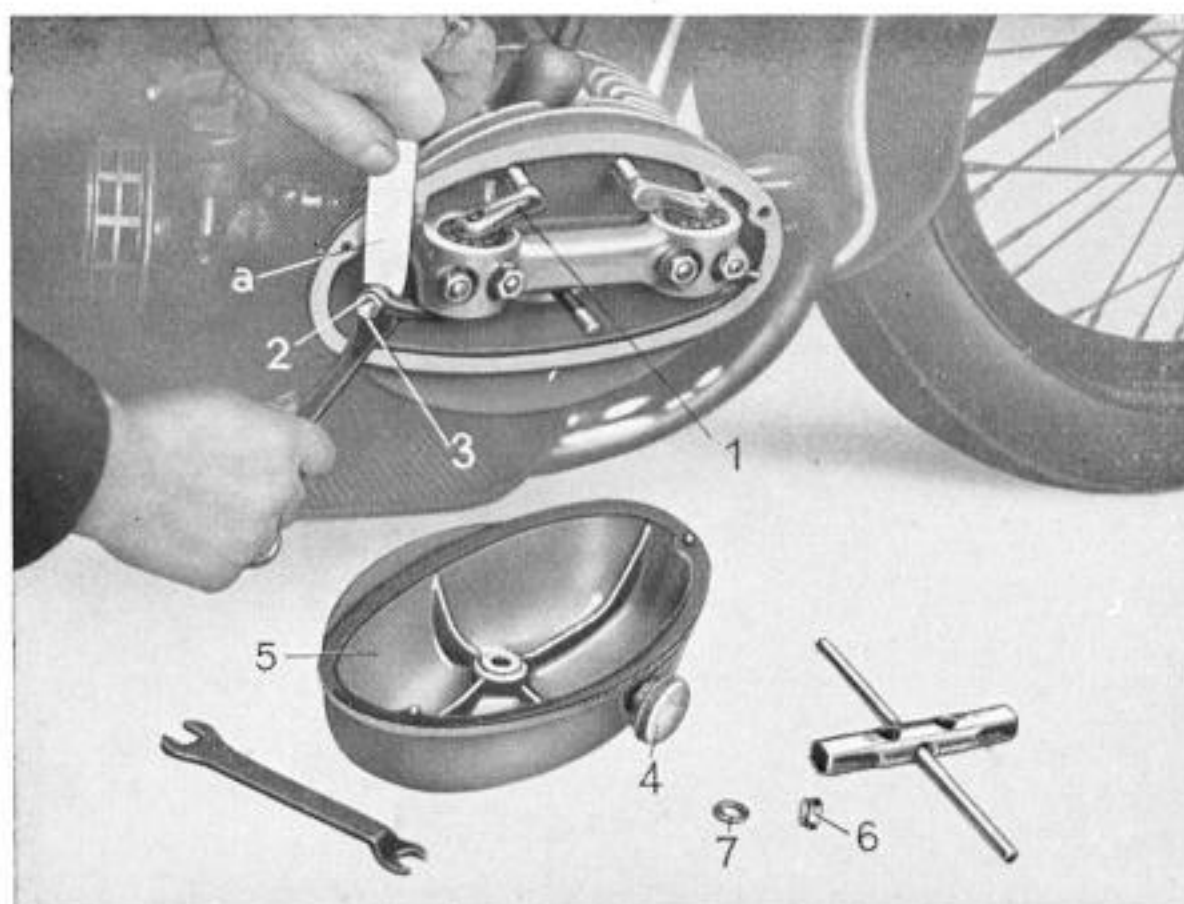

Fig. 12 Adjustment of the valve clearance of the sports machine
**Sports machine:** After loosening and removing the nut 6 and the disc 7 the protective cap 5 is removed (fig. 12). Now turn the engine by means of the kickstarter in such a way that the rocking lever 1 may be moved as far as it will go. Then loosen the lock nut 2, adjust the thrust screw 3 with the paper strip a, to the proper distance and then tighten the lock nut 2 again. After replacing and screwing on the protective cap fill in a small quantity of oil — about one tablespoonful — which may be done after removing the screw plug 4. This oil serves to lubricate the valve action, and should be checked and, if needful, replenished every 1000 miles.